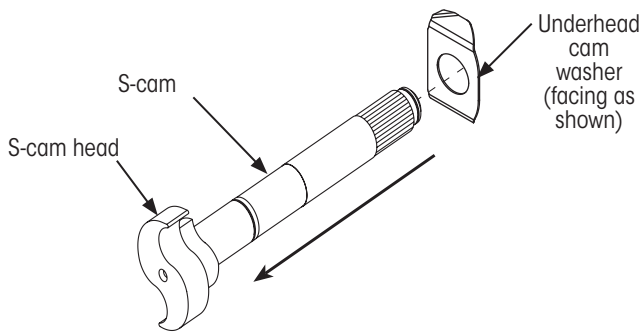

Figure 17: Installing the underhead cam washer
3. **Slide** the underhead cam washer onto the new S-cam until it contacts the S-cam head as shown in Figure 17.